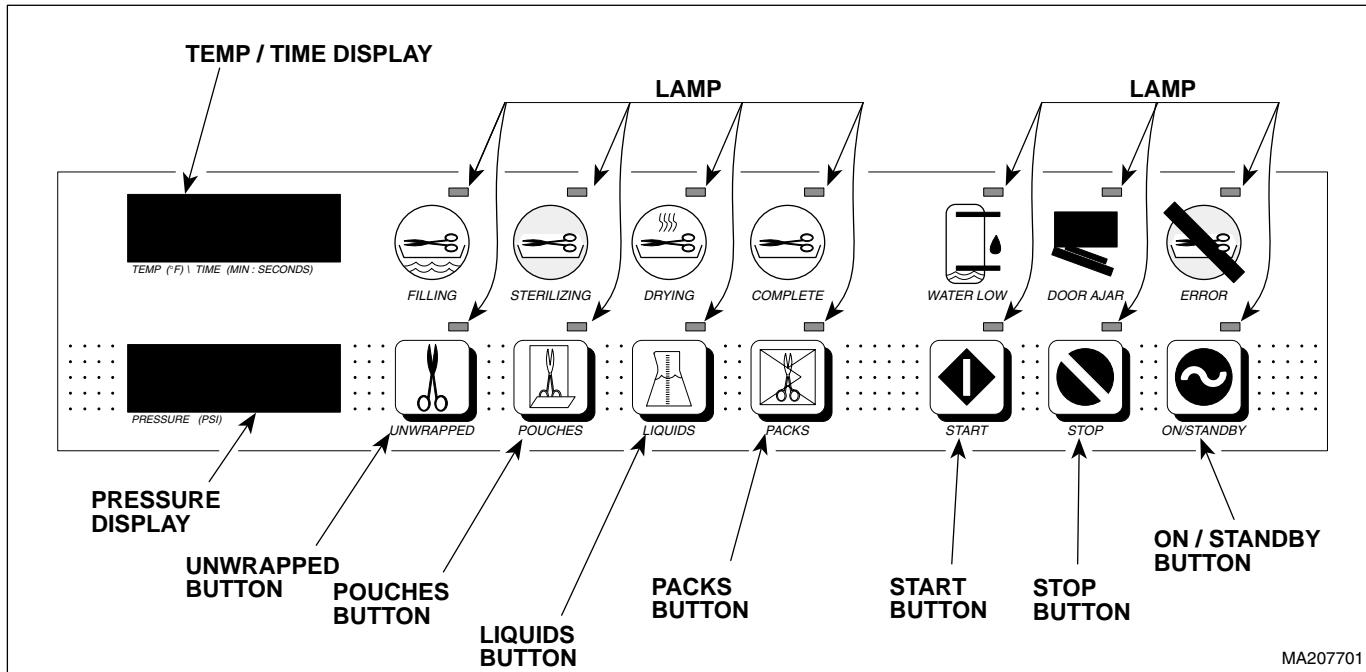

Figure 4-33. M9 / M11 Door Opening Test
(1) Fill chamber with water. [To do this, start any cycle. After chamber has filled with water, the Sterilizing LED will illuminate].
(2) Disconnect power cord.
(3) Open door.
- (4) Press and hold **STOP & POUCHES** buttons (see Figure 4-33) while plugging in power cord.
- (5) Press and release all buttons from left to right across display panel.
- (6) Close door. [This will activate all relays in the sterilizer in sequence. Pulse solenoid should automatically open door when test cycle is complete].
- (7) To rerun test, repeat steps 2 thru 6.
- (8) To verify proper operation, run a complete cycle when test is complete.